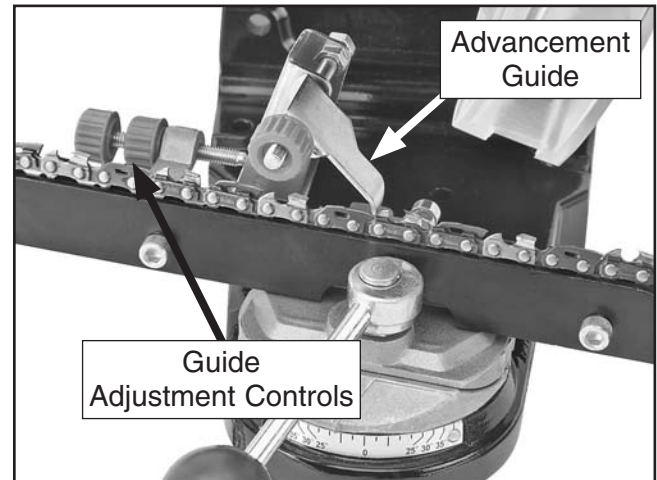

Figure 32. Advancement guide and controls.
13. Position the edge of the advancement guide behind the cutter to be sharpened, then pull the chain to the left until the guide catches and stops the chain (see **Figure 32**).